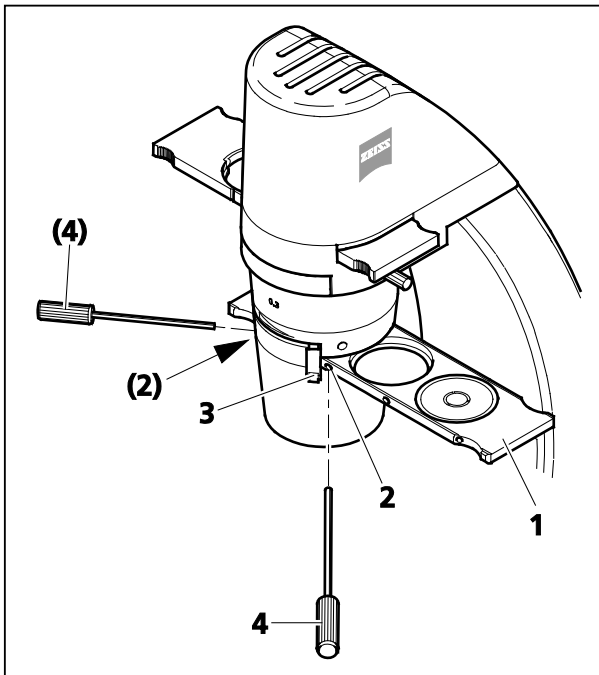
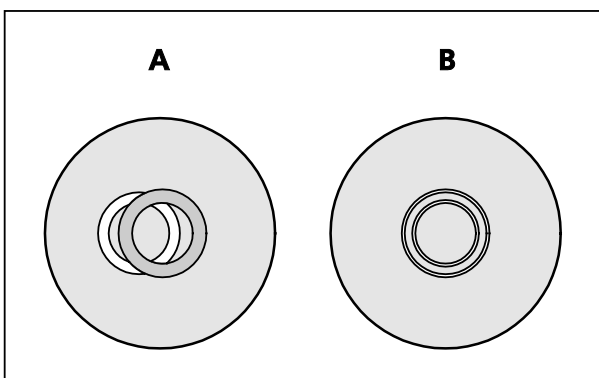

Fig. 33 Inserting the slider
Fig. 34 Centering the phase stop
- Open the aperture diaphragm completely by means of the lever (Fig. 33/3) on the condenser.
- Introduce the slider (Fig. 33/1) into the condenser so that the phase stop position suitable for the objective used (Ph 0, Ph 1 or Ph 2) is in the light path. Pay attention to the correct detent position.
- Check the centering of the phase stop according to the drawing in Fig. 34. To this end, remove one eyepiece and replace it by the diopter.
- Center the phase stop, if necessary (Fig. 34/A), by turning the two adjusting screws (Fig. 33/2) of the corresponding slider position by means of the two Allen keys SW 1.5 (Fig. 33/4) until the image corresponds to that shown in Fig. 34/B.